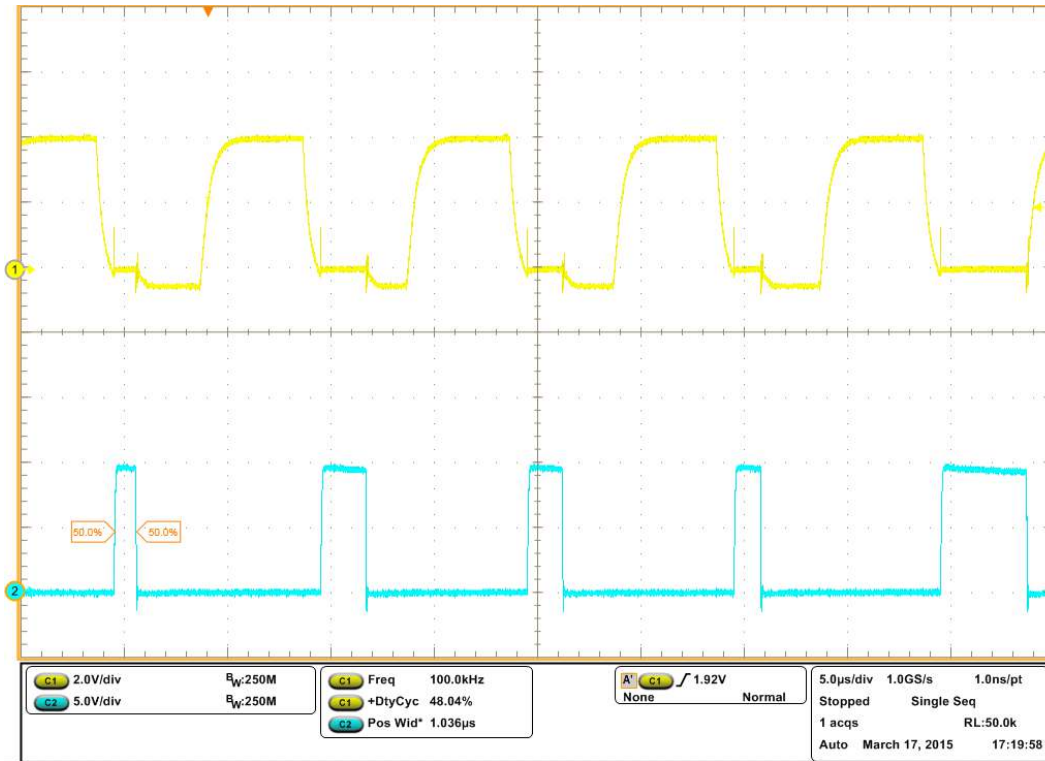

Figure 2: $V_{CC} = 12 \text{ V}$, $f = 100 \text{ kHz}$, $DC = 50\%$, $V_{LOW} = -1 \text{ V}$, $V_{HIGH} = 4 \text{ V}$
4. Check that $I_{CC} = 20\text{ mA}$, waveforms look like in figure 2 (DRV pulses may oscillate between 470 ns and $5\text{ }\mu\text{s}$)